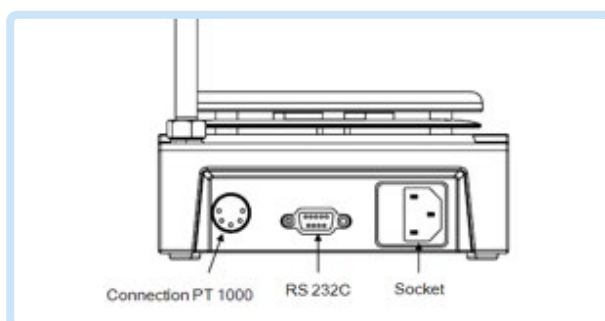

Figure 6. Connection and data communication
- The functions of the interface lines between laboratory device and automation system are selected from the specified signals of the EIA-standard RS232C, corresponding with DIN66020 Part 1. The allotment of the bushing can be taken from Figure 6.